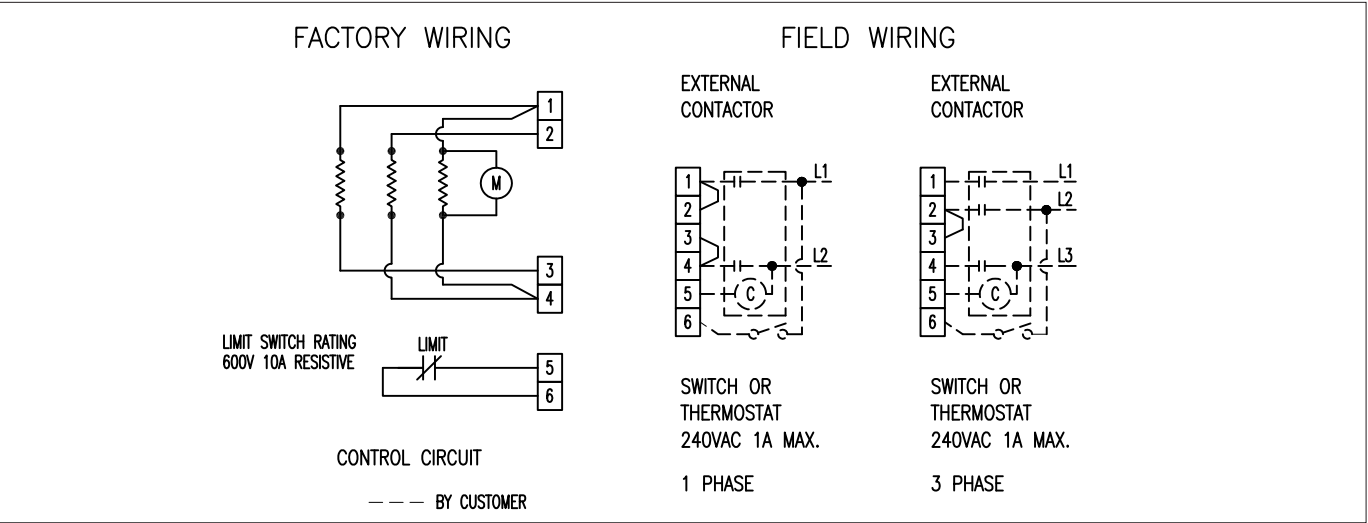

Figure 3E - GE Series 15–30 kW wiring schematic with hi-limit option. 208–600V models.
5. Models without a built-in contactor should have the limit switch wired in the control circuit of an external contactor, and for three phase supply, this control circuit should be connected to L2 and L3 which feed the centre heating element, refer to Figure 3E, page 7. The limit switch is rated 600 volts, 10 amps resistive.